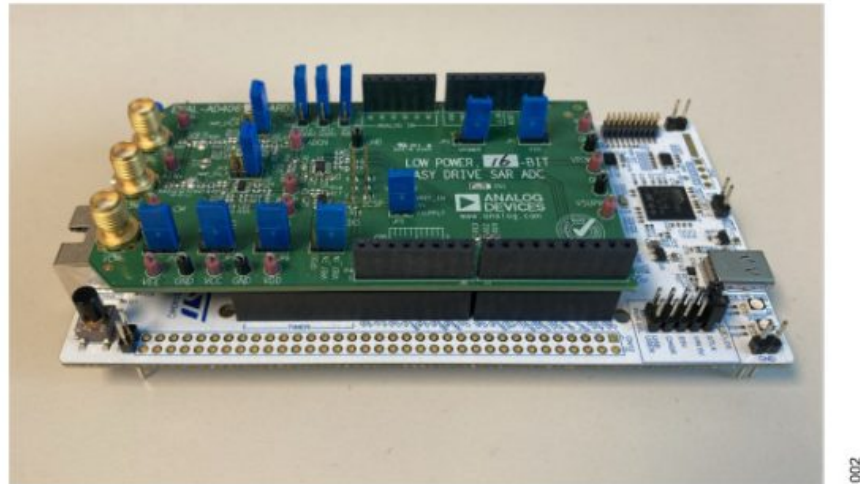

Figure 2. EVAL-AD4062-ARDZ and Nucleo-H563ZI Connections
- The EVAL-AD4060-ARDZ/EVAL-AD4062-ARDZ connect to the Nucleo-H563ZI via the Arduino Uno compatible headers (P1 to P4). Plug the headers on the bottom side of the evaluation board to the corresponding headers on the top side of the Nucleo-H563ZI (see Figure 2).